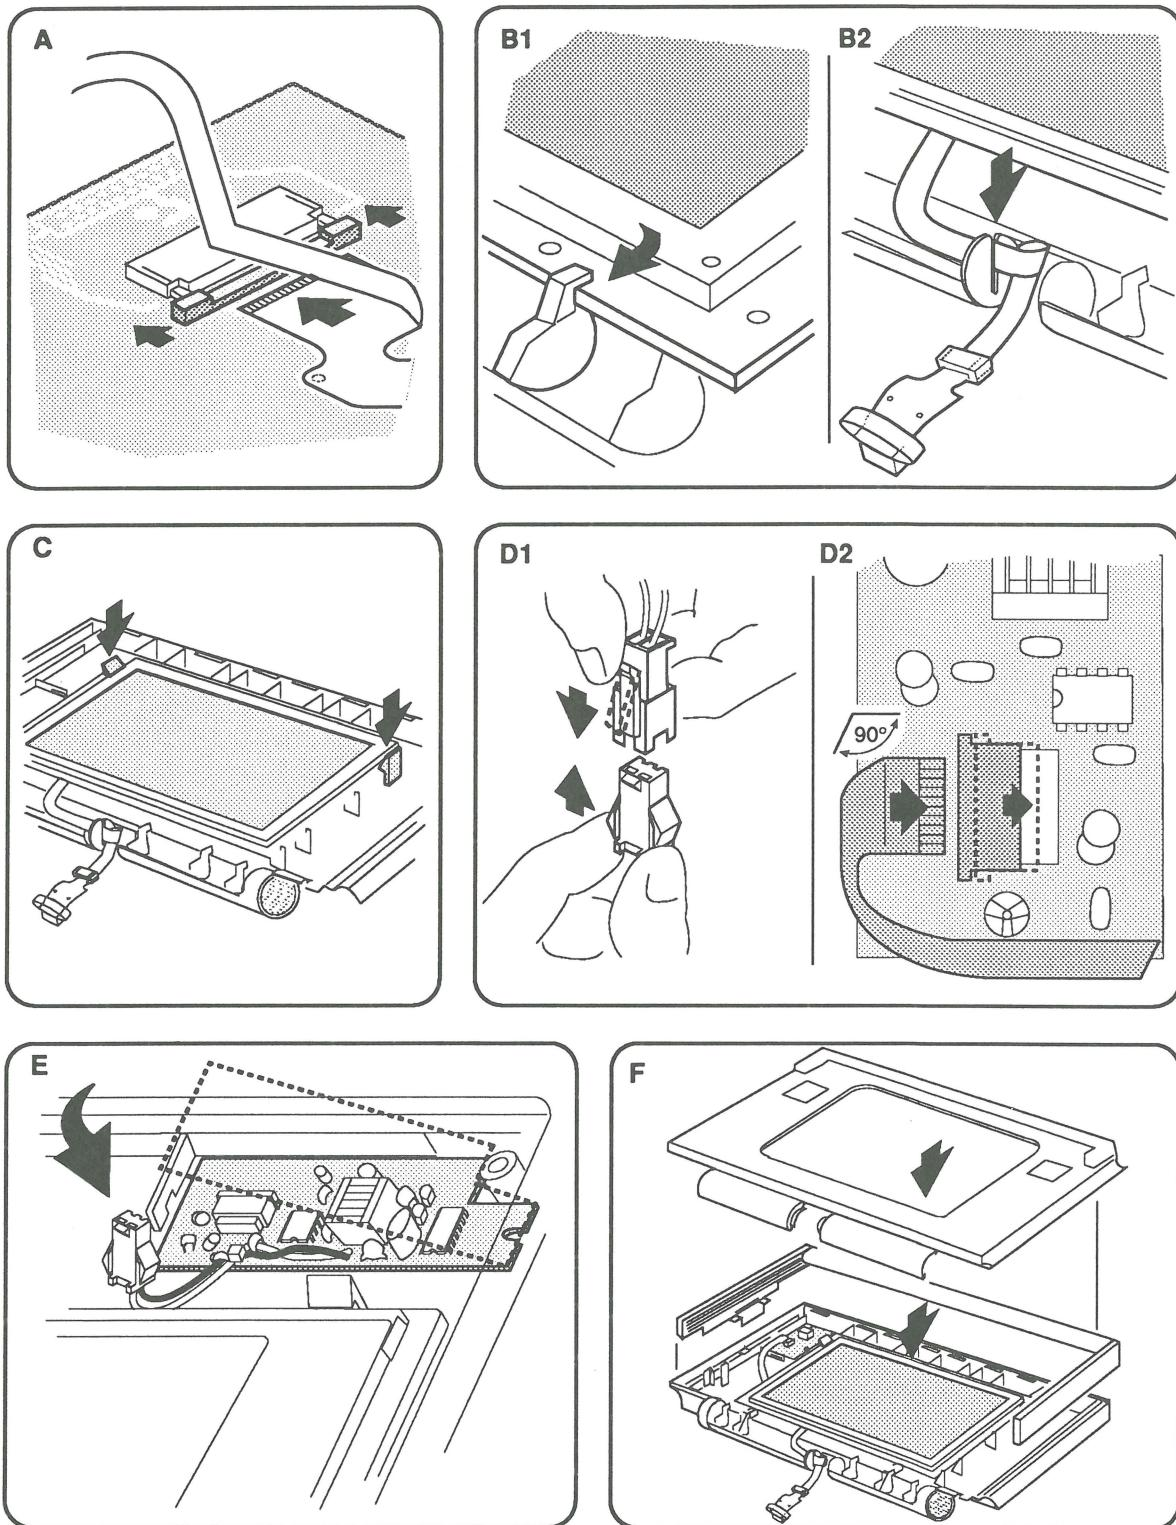

FIGURE 19
1. **Figure 19-A.** Connect the display cable to the display by **gently** sliding the cable into the connector, printed side up. Make sure the cable is fully seated and straight in the connector. Slide the plastic latch toward the connector to secure the cable in place.
2. **Figure 19-B1.** Place the bottom edge of the display into the two plastic clips at the bottom of the display housing.
Note: **Figure 19-B2.** Make sure the display cable is placed as shown. The cable must lie flat under the display, and the cable must be carefully placed in the channel.
3. **Figure 19-C.** Press down on the corners of the display with your thumbs until it snaps in place.
4. **Figure 19-D1.** Connect the ccfl-lamp-to-inverter-PCA cable.
5. **Figure 19-D2.** Connect the cable from the inverter PCA to the LCD display by **gently** sliding the cable into the connector. Make sure the cable is fully seated and straight in the connector. Slide the plastic latch toward the connector to secure the cable in place. Make sure the cable is bent upward at 90 degrees to the connector as shown in the illustration.
6. **Figure 19-E.** If you are replacing the inverter PCA, peel the paper from the tape on the back of the PCA and place the inverter in position. Press down gently to make sure the adhesive sticks to the display housing.
8. **Figures 19-F.** Place the carrying handle in position in the display housing. The plastic clips should be in the channel at the edge of the housing.
9. **Figure 19-F.** Place the display bezel on the housing as shown in the illustration. You'll need to hold the carrying handle in position.